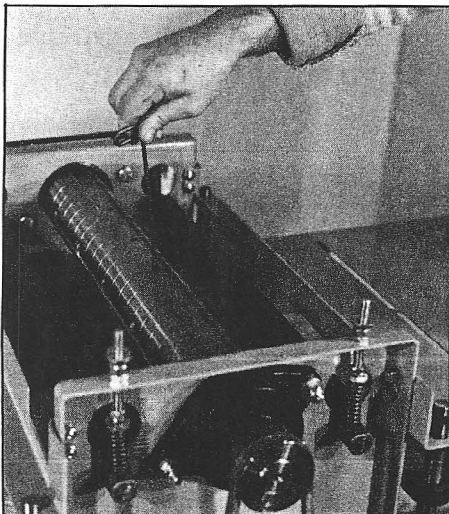

Fig. 8
3. Remove one gib at a time. Loosen and remove the three socket head cap screws that holds the gib in the cutterhead slot. (fig. 8)